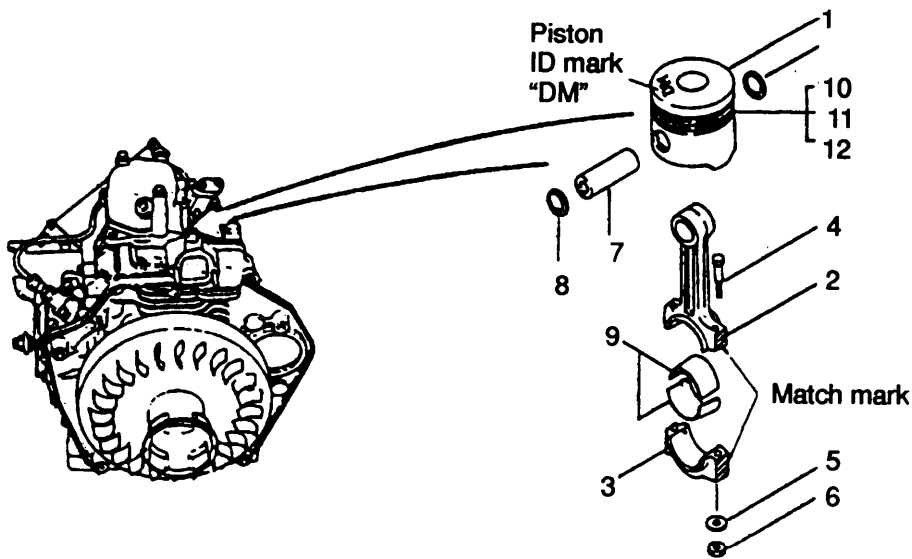

Figure 5-29. Piston and Connecting Rod Assembly
- a. Heat piston (1) to 160-180°F.
- b. Line up the piston top identification mark "DM" and the ID number on the connecting rod as shown in Figure 5-29
- c. Align the small end hole of connecting rod (2) with the piston pin hole.
- d. Insert piston pin (7) into the piston pin hole.
- e. Insert two snap lock rings (8) into piston pin hole.